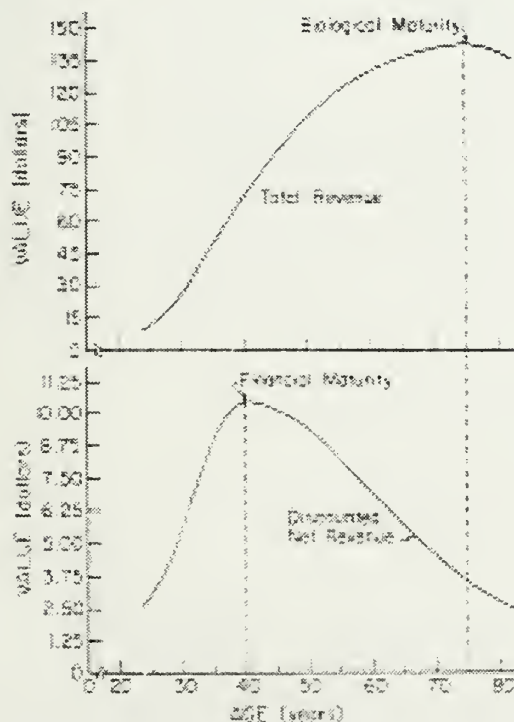

Figure 1. Comparison of financial and biological maturity for a hypothetical tree.
In uneven-aged stands managed for timber production, individual trees should be selected for harvest as they become mature. The financial maturity concept is ideally suited for the purpose of determining "maturity" if maximization of net revenues is the decision-making criterion. Figure 2 (5) represents the typical value growth percent (VGP)⁶ pattern for an individual tree. VGP measures the rate of value increase in the discounted net revenue curve (Figure 1); however, the VGP may be calculated without drawing such a graph. The value growth percent is modest when the tree is small in diameter because the value per unit of wood is low, and the volume is small. In the diameter range of 12 to 16 inches, the VGP initially rises sharply because unit values increase rapidly as the tree in-
In contrast, the biological maturity of a tree or a stand of trees occurs when the tree or stand achieves maximum merchantable volume. Financial maturity differs from biological maturity by imposing economic and business management constraints on the production process. In determining financial maturity, benefits are weighed against costs. The benefits are the marketable values, while the costs include capital charges and expenses. If the financial maturity concept is adopted as a management guide, trees and stands are normally harvested at a point in time prior to their biological maturity (Figure 1). Usually the point of financial maturity and biological maturity will be equal only if costs are zero and the owner's alternative rate of return is zero. ³